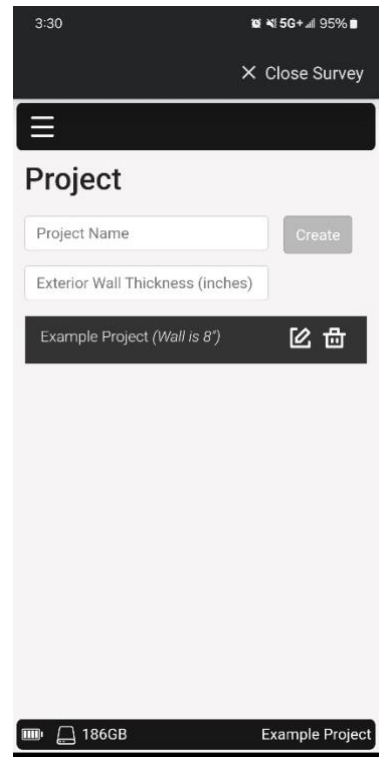

Figure 8 - Project menu
1. Tap in the blank field on the Project menu, enter a name, and select “Create” (see Figure 8).